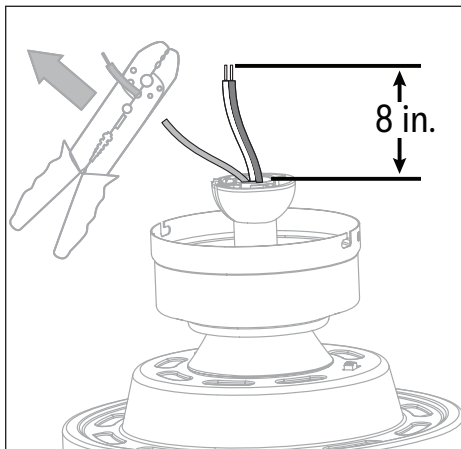

Figure 3.4
4. Depending on the length of downrod you use, you may want to cut the fan wires to simplify wiring. After pulling the wires all the way through the downrod, measure 8 inches of wire. Cut off the excess wire using wire cutters (not included). Then strip 1/2 inch of insulation from the end of each wire strand. **CAUTION:** Do not cut the braided cable (Figure 3.4).